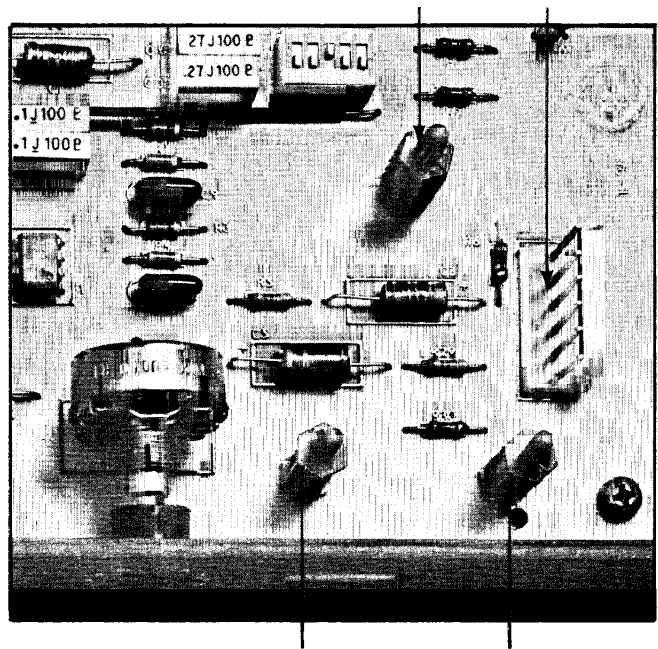

Figure 5 — Carefully Align Crossover Card with Three Mounting Pins & Male Chassis Connector
3. Align the three holes in each new crossover card with the corresponding mounting pins on the main printed circuit board (Figure 5). The components on the card should face toward the chassis, with the frequency designation label toward the front panel.